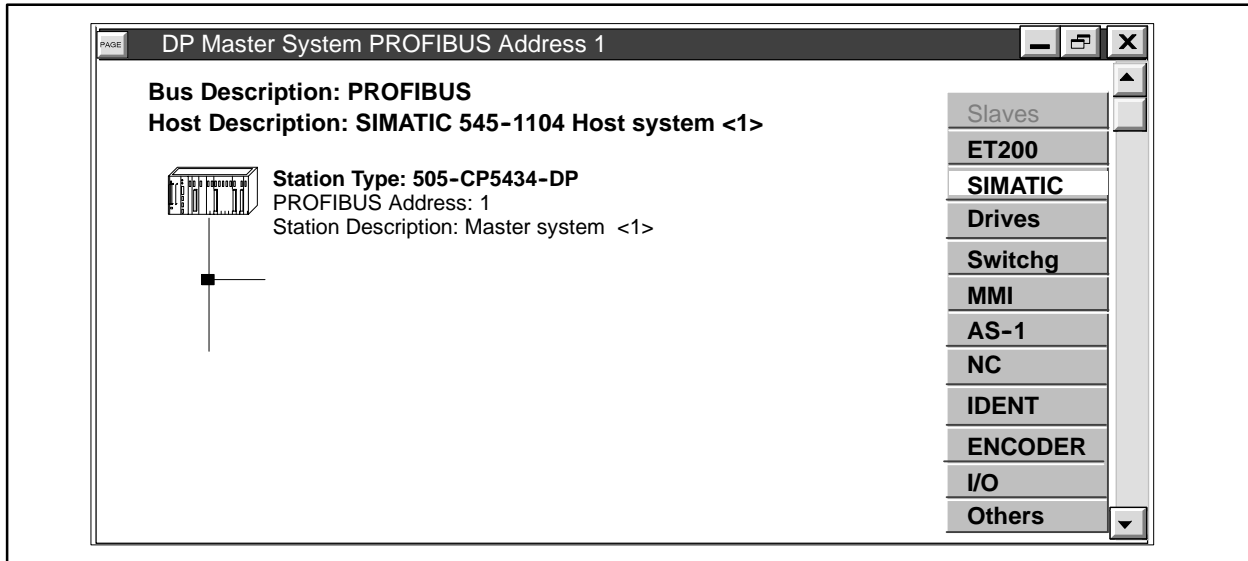

Figure 9-3 DP Master System PROFIBUS Address 1 Window
4. Select **OK** to confirm. The DP Master System PROFIBUS Address 1 window is displayed, showing the master system that you have selected and a list of slave types (Figure 9-3).